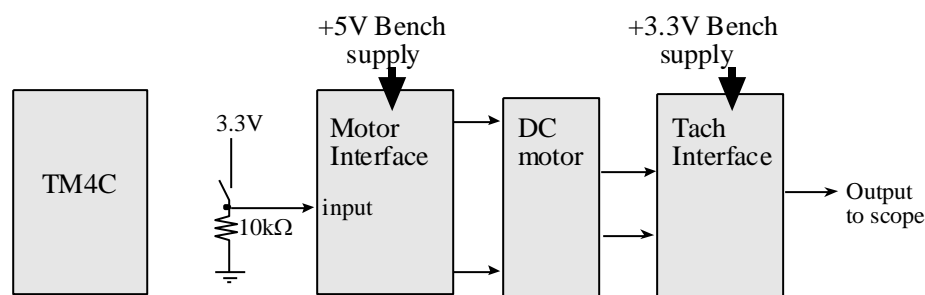
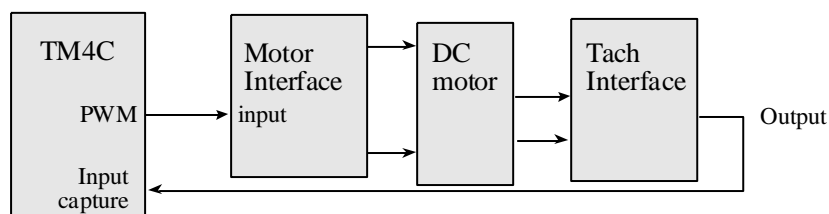

Figure 10.7. Hardware test procedure, microcontroller not connected at all. +5V and +3.3V power is supplied by a bench supply.
Figure 10.8. Hardware block diagram. +5V and +3.3V power is supplied by the LaunchPad.
3) After you are sure the motor and tachometer interfaces are operating properly, replace the switch in Figure 10.7 with a PWM output of the microcontroller, as shown in Figure 10.8. If you are at all unsure about this lab ask your TA for help. Once you are sure the hardware is operating properly, run a simple software function that rotates the motor at a slow velocity to verify the hardware/software interfaces. In particular, debug the tachometer input and PWM output drivers separately before attempting to run the controller. Connect both the PWM output and motor voltage to the scope and take a screen shot. Identify the action of the snubber diode on the motor signal. Connect both the tachometer signal and digital connected to the input capture pin to the scope and take a screen shot.